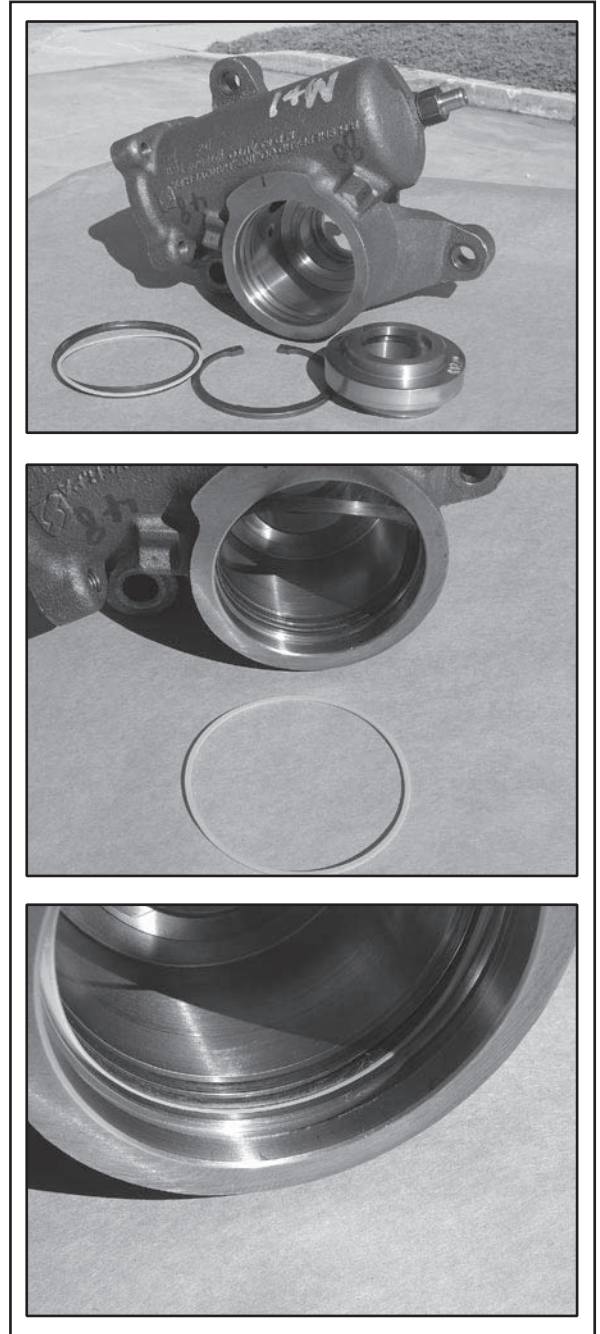

Figure 14. MD83 Showing Housing, L-Seal, New Cover, and Backup Ring.
9. Remove the O-ring from the sector shaft cover, or the 2 piece L-seal from the housing. (Figure 14)